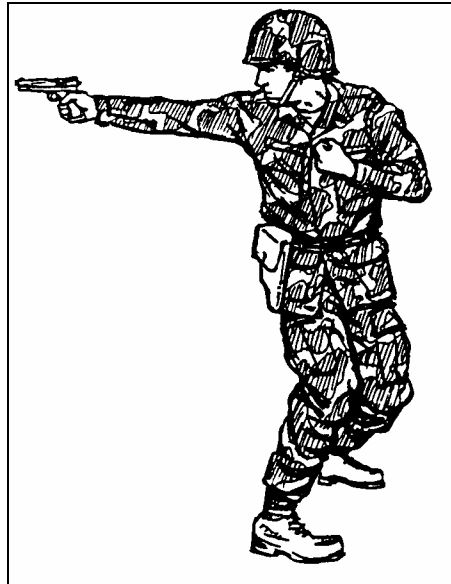

Figure 2-19. Traversing to the right rear.
(5) *Traversing to the Right Rear* (Figure 2-19): The upper body continues to turn to the right until it reaches a point where it cannot go further comfortably. Eventually the left hand must be released from the fist grip, and the firer will be shooting to the right rear with the right hand.